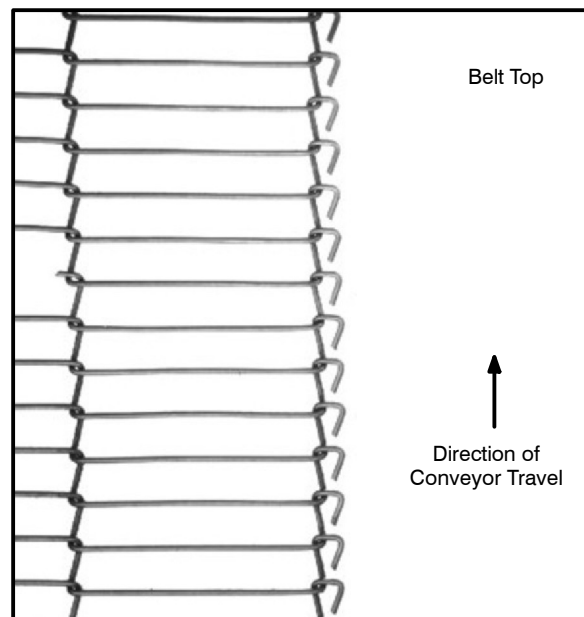

Figure 7
4. Install the conveyor belt as shown. See Figure 7 – Figure 13.